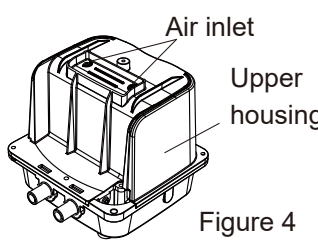

Figure 4
- ⑤Check and make sure the air inlet is not clogged. (Figure 4)
- ⑥Remove the dust at the upper housing.
- ⑦Attach the filter and confirm whether filter gasket is attached properly.